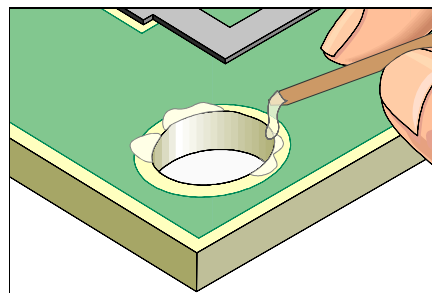

Figure 2: Apply epoxy with a mixing stick sharpened at one end.
- Coat the area with epoxy up to and flush with the PC board surface. A mixing stick may be used to apply and spread the epoxy. (See Figure 2).